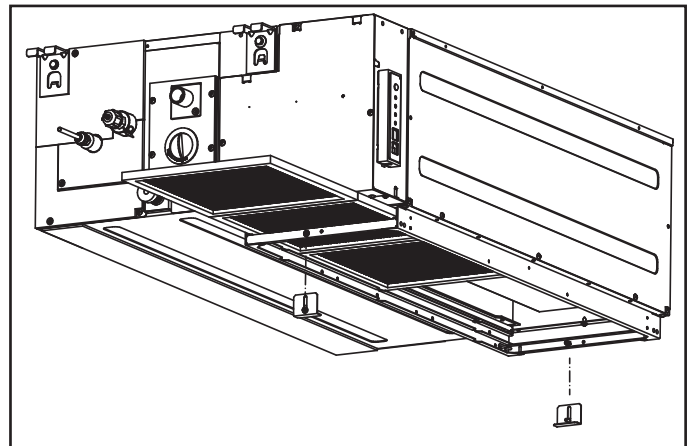

Figure 13. Re-install Filter using Clips
7. Re-install the return air filter in the repositioned filter frame in the bottom of the unit. Use the provided clips to secure the filter within the filter frame as shown in Figure 13.